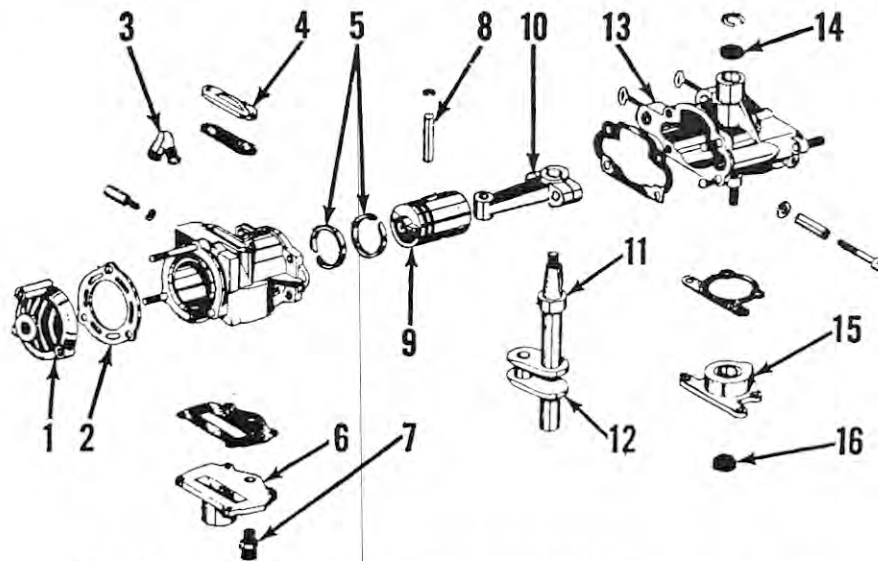

Fig. N2 — Exploded view of Neptune power head and associated parts.
R&R AND DISASSEMBLE. To remove the power head, first loosen thumb screws and remove steering handle; then remove fuel tank and cowling. Remove flywheel, magneto assembly and carburetor and manifold assemblies if power head is to be disassembled. Disconnect coolant lines, remove the stud nuts retaining power head to lower motor leg and lift off the power head. Refer to Fig. N2 for an exploded view of power head.
The crankshaft main bushings are renewable only by renewing crankcase (13—Fig. N2) or lower adapter (15). Crankshaft seals